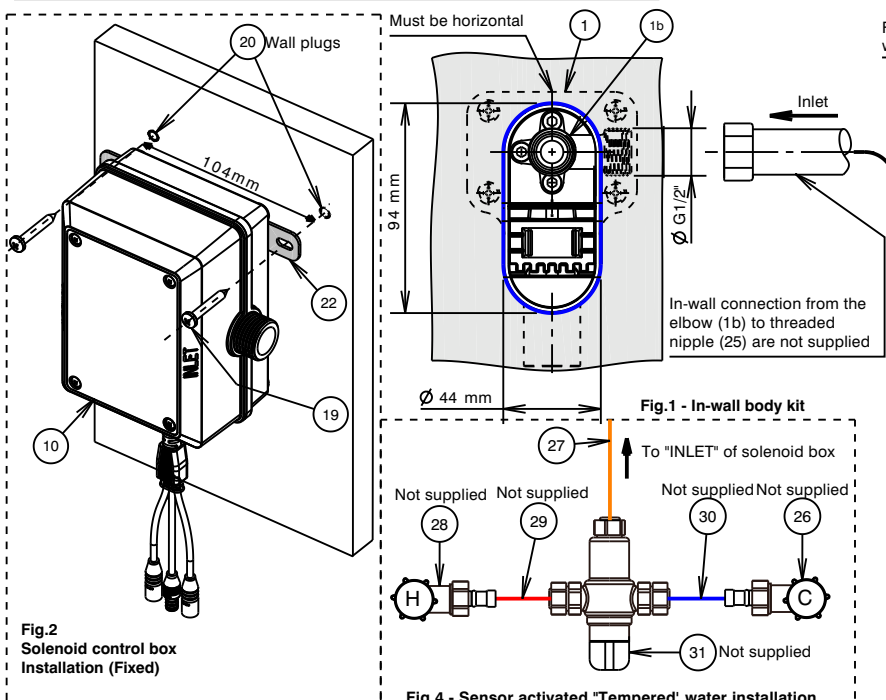

Fig.2 Solenoid control box Installation (Fixed)
3a) Solenoid Control box installation (Fixed mounting), Fig.2: For installation onto solid walls; (brick, concrete etc.)
- i) Drill two $\phi 6$ mm holes, 40mm deep and 104mm apart horizontally as shown in **Fig. 2**.
- ii) Insert small end of wall plugs (20) into drilled holes and tap until flush with wall/tile face.
- iii) Align the slots on fixing plate (22) with the holes on the wall, pass the screws (19) through the slots and insert into the wall plugs (20). Then tighten the screws. DO NOT OVERTIGHTEN.
- i) Drill two holes at 104mm apart horizontally to suit the self tapping screws supplied as shown in **Fig. 2**.
- ii) Align the slots on fixing plate (22) with the holes on the wall, pass the screws (19) through the slots and into the holes in the timber stud, then tighten the screws. DO NOT OVERTIGHTEN.